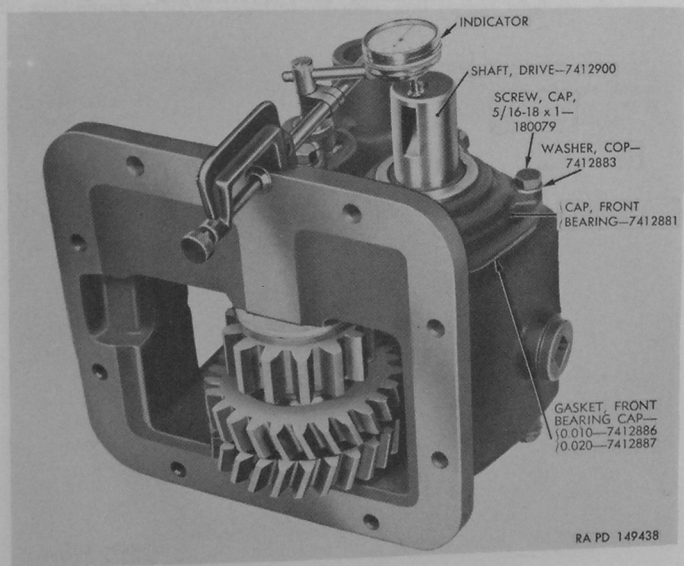

Figure 93. Checking drive shaft bearing adjustment.
*h.* Check bearing adjustment with dial indicator mounted as shown in figure 93. Adjustment is correct when there is 0.005-inch end play in drive shaft (VV).